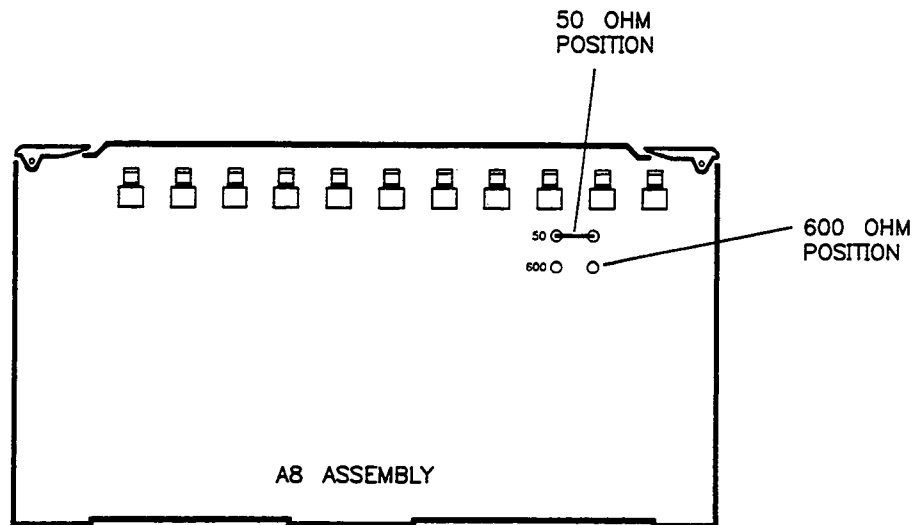

Figure 3-43. A8 Jumper Locations
2. Lift up the A8 modulator generator assembly far enough to access the jumper shown in Figure 3-43.